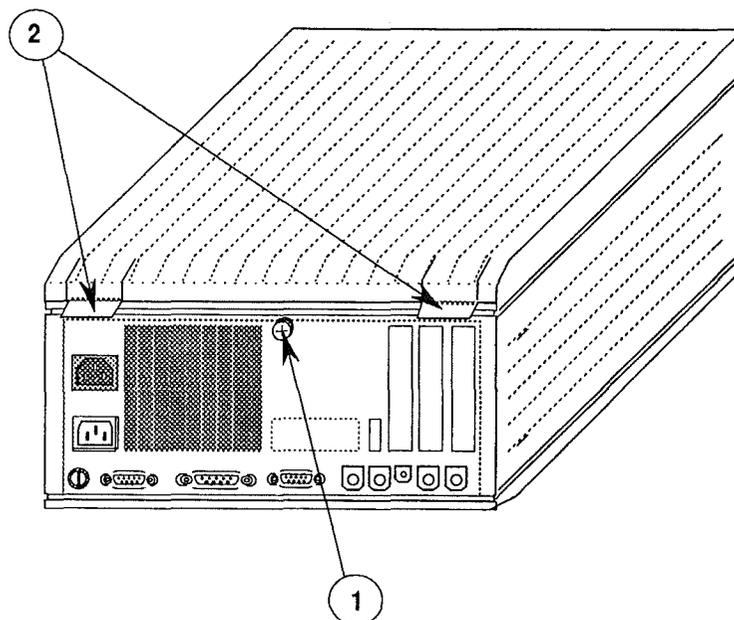

FIGURE 1
2. Remove the Phillips screw (Figure 1, #1) at the top rear of the case.
3. Push up on the tabs on the back of the lid (Figure 1, #2) and lift up the lid from the back to the front until the lid comes off the front end.
3. Replace the Phillips screw on the rear of the unit (Figure 1, #1).